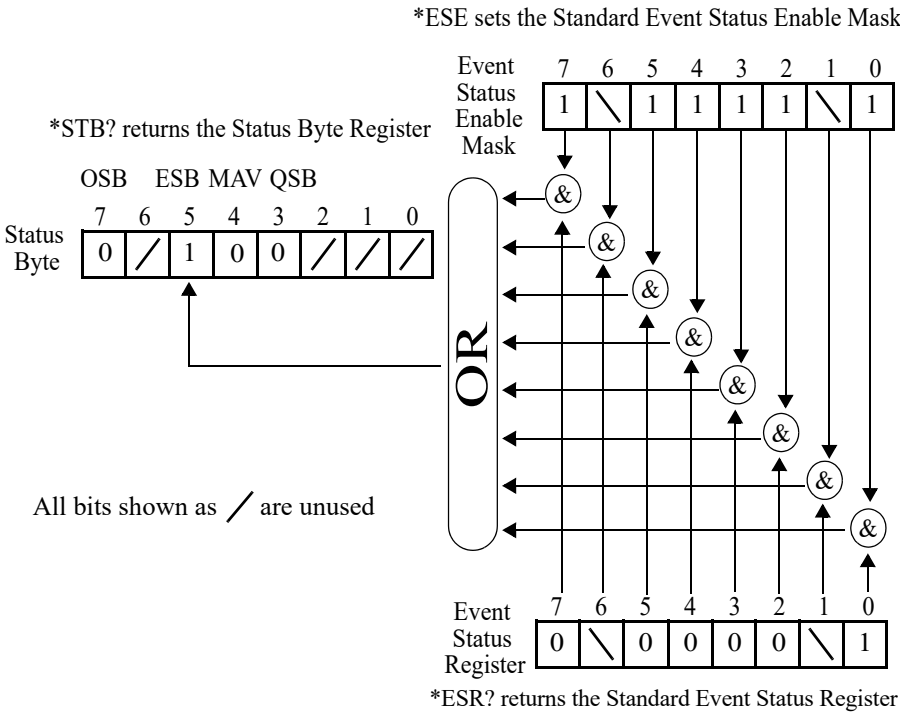

Figure 1 The Event Status Bit
**Figure 1** shows how the Standard Event Status Enable Mask (SESEM) and the Standard Event Status Register (SESR) determine the Event Status Bit (ESB) of the Status Byte.